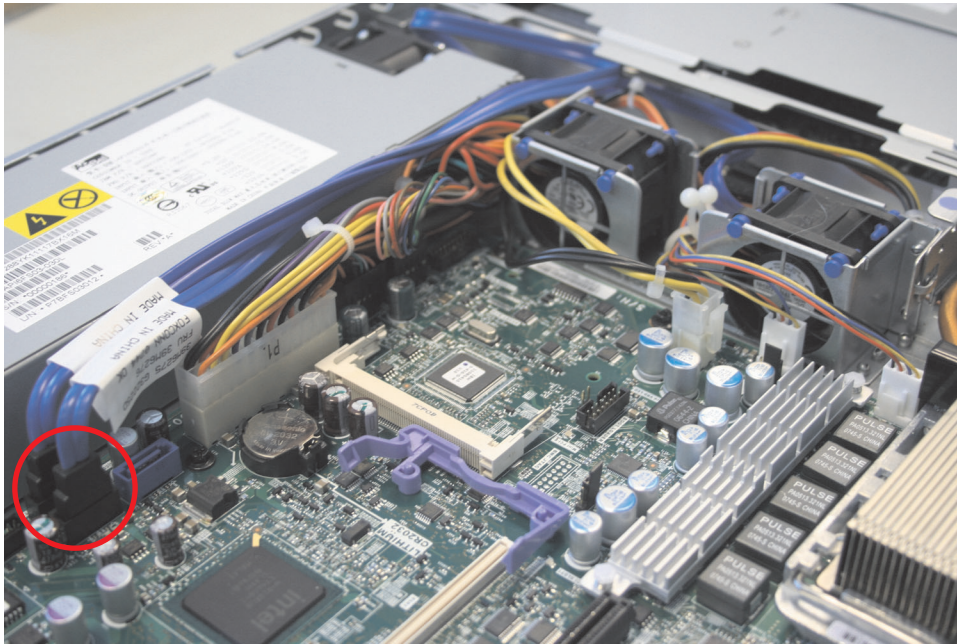

Figure 114. SAN Volume Controller 2145-8A4 SATA cable connectors
8. Notice where the two SATA cables that are connected to the backplane are connected to the system board, as shown in Figure 114 on page 135. Then disconnect the two SATA cables from the system